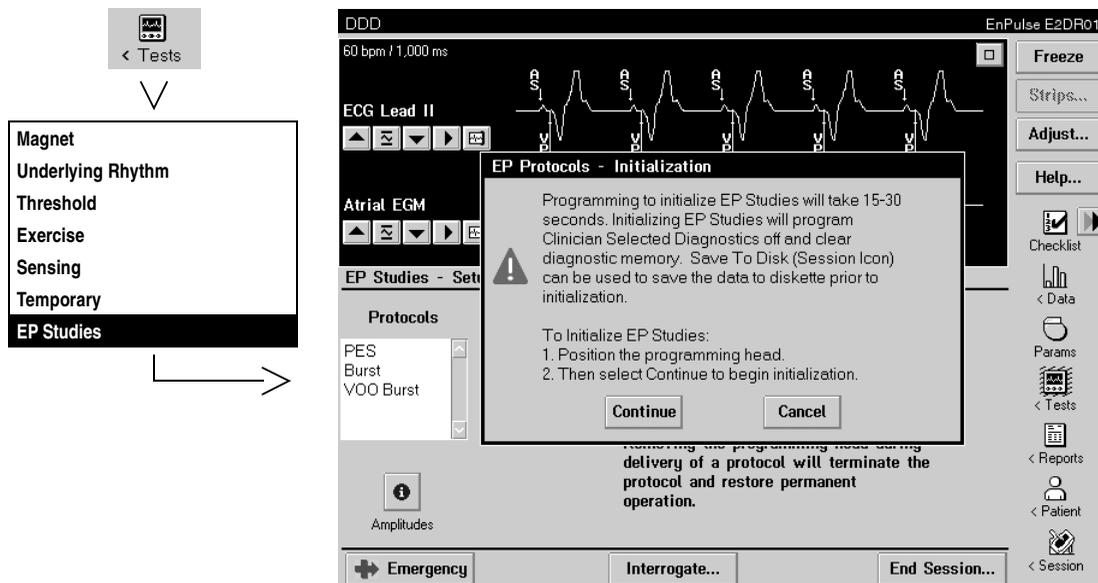

Figure 9-5. EP Studies setup screen
3. When you see the Initialization message window shown in Figure 9-5, select [**Continue**] to proceed with EP Studies. (Select [**Cancel**] if you wish to exit this procedure.) If you see another message, refer to “Explanation of start-up messages” on page 9-12.